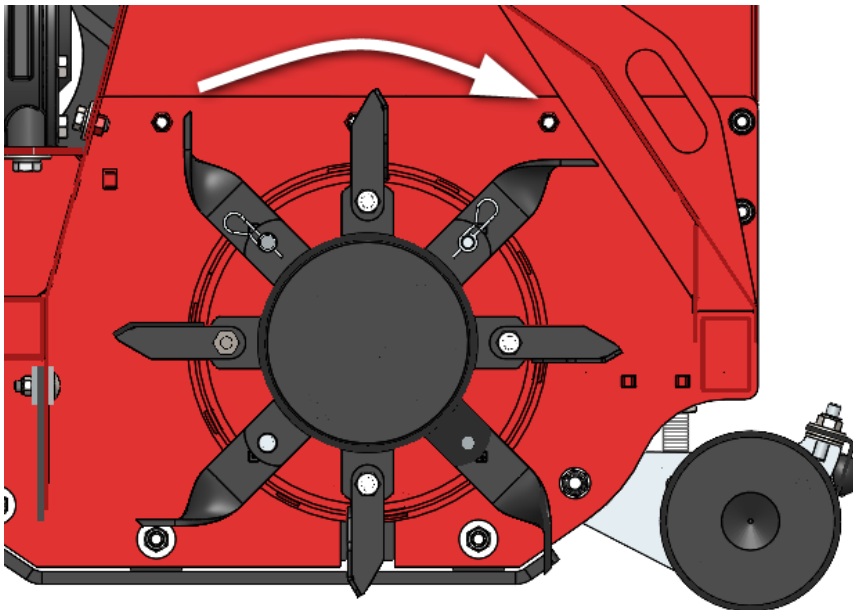

Fig. 12
-  For machines with flail blades, consider the specific rotation direction of the blades (*Fig. 12*).